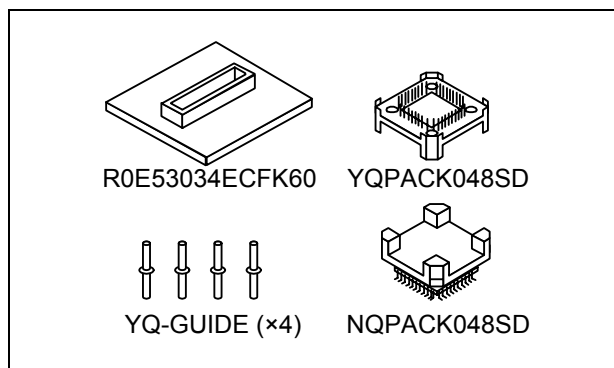

Figure 1 Package components of the R0E53034ECFK60
2. Package Components (See Figure 1)